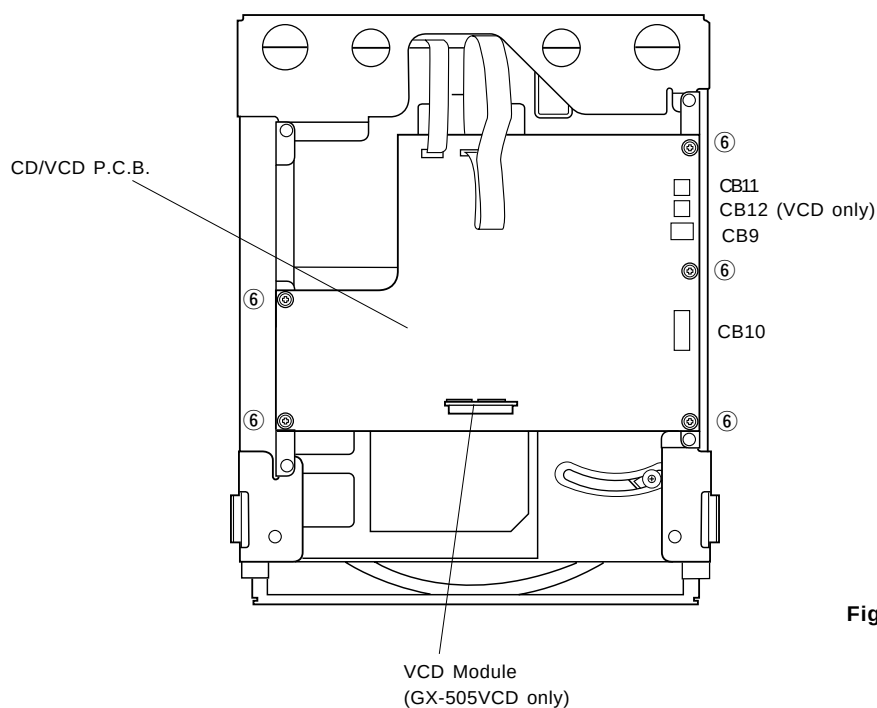
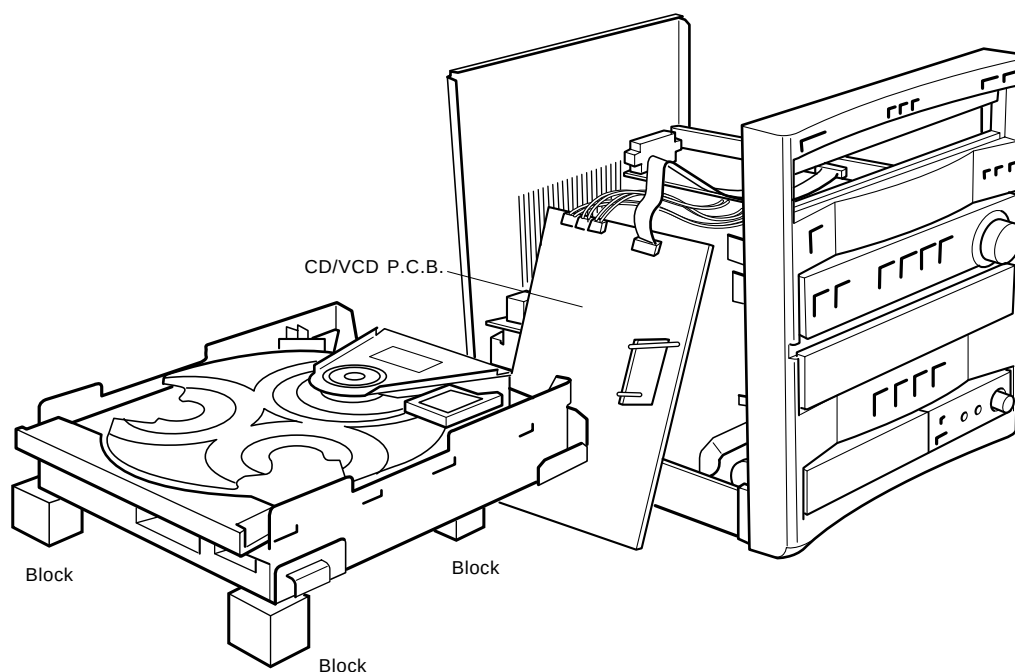

Fig. 4
Fig. 5
- Remove 5 screws (⑥) and then remove the CD/VCD P.C.B. in Fig. 4.
- Place blocks (at 3 locations) to hold the CD Mechanical Unit horizontally as shown in the Fig. 5.
- Connect the Flat Connecting Cable (CB10) and 3 connectors (CB11, CB12 and CB9) in Fig. 4 and Fig. 5.